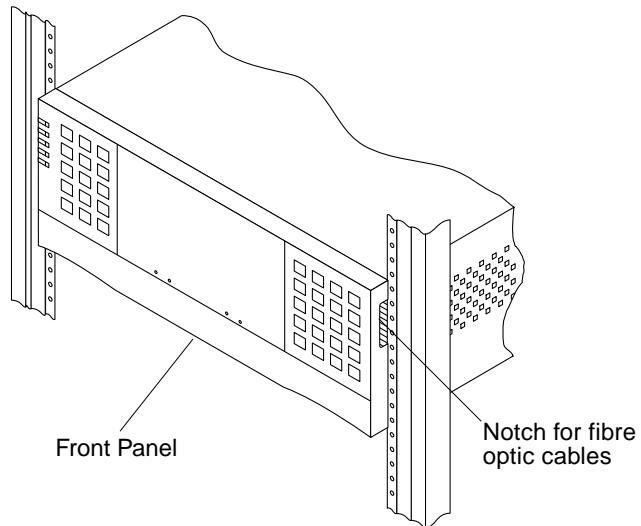

FIGURE 2-14 The Front Panel of the Controller Module (Factory-Configured)
1. Remove the front panel from the controller module (FIGURE 2-14).
- 10. Reinstall the front panel on the controller module** (FIGURE 2-14).